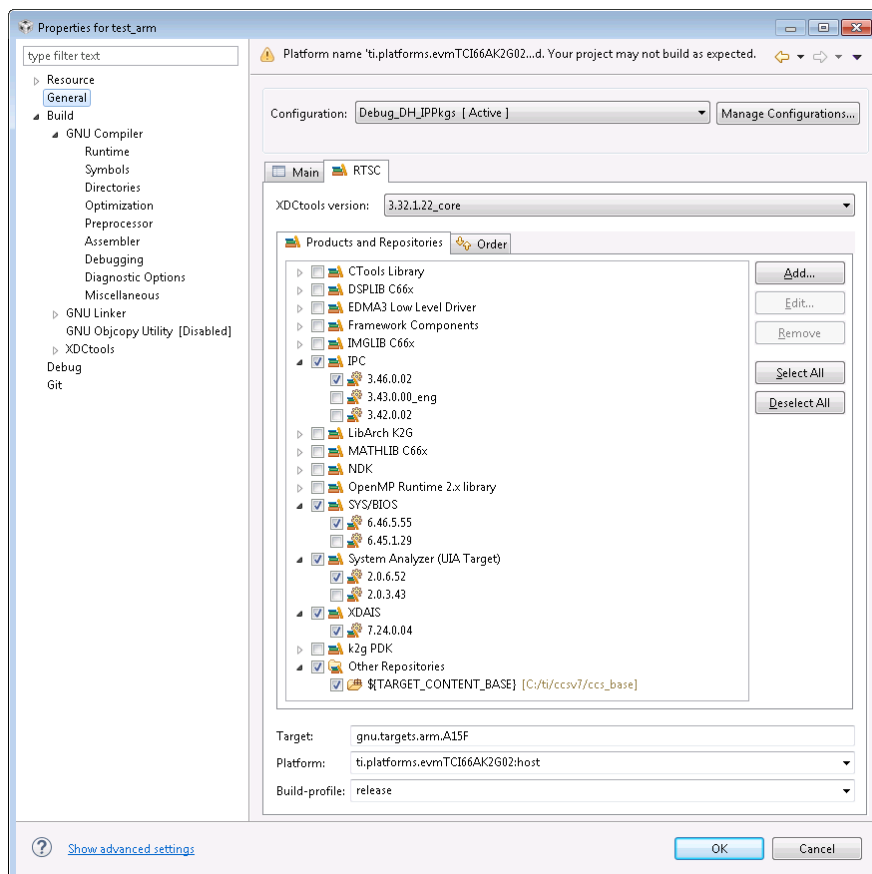

Figure 2: ARM Application RTSC Configuration
3. Ensure the correct component software versions are selected in the RTSC control panel (See Figure 2 below).